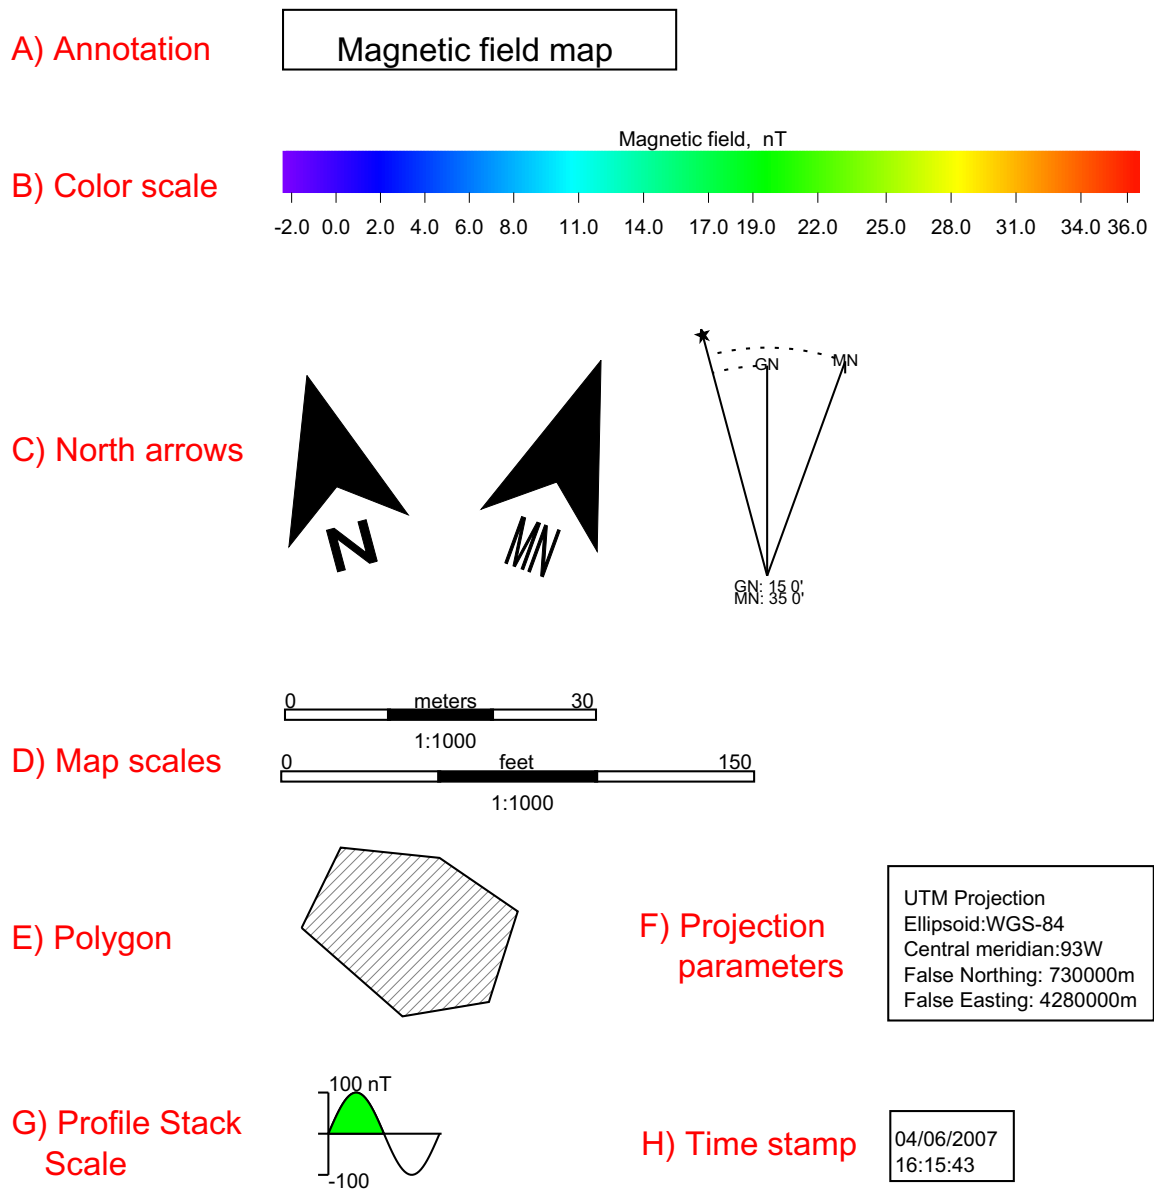

Figure 118: Different annotation types.
2. **Time stamp.** System automatically assigns text to be current date and time. Text is updated each time map is drawn. This is shown as (H) above on figure118.
3. **UTM parameters.** Using current UTM projection parameters, program prepares projection time stamp. This is shown as (F) above on figure118.